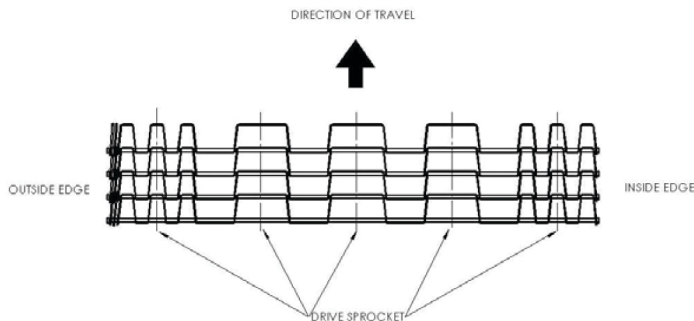

Figure 2
- Insert threaded connector rod and attach nut. Insure that the nut does not protrude farther than adjacent rod button heads (*Figure 2*).